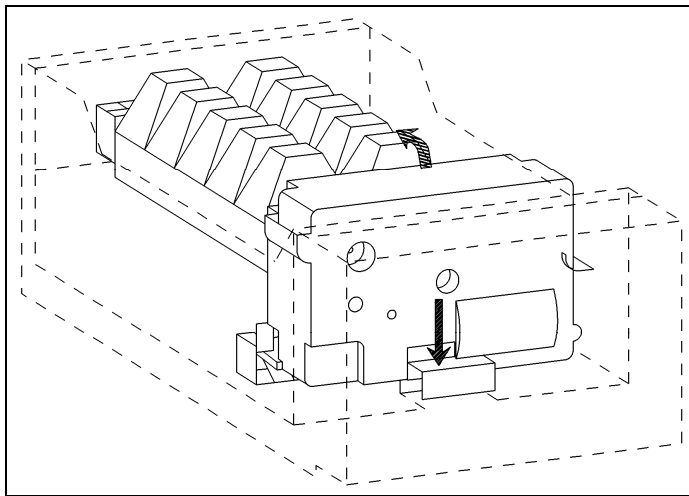

Figure 010-26: Icemaker Motor Removal
7. Press the retainer down and pull the motor out of its holder, Figure 010-26.